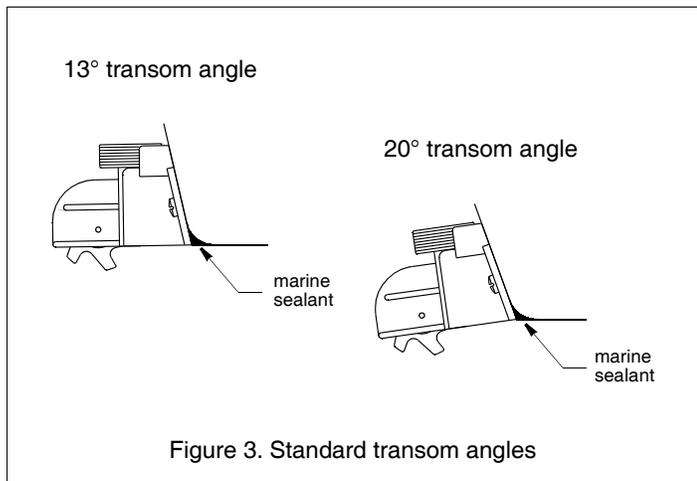
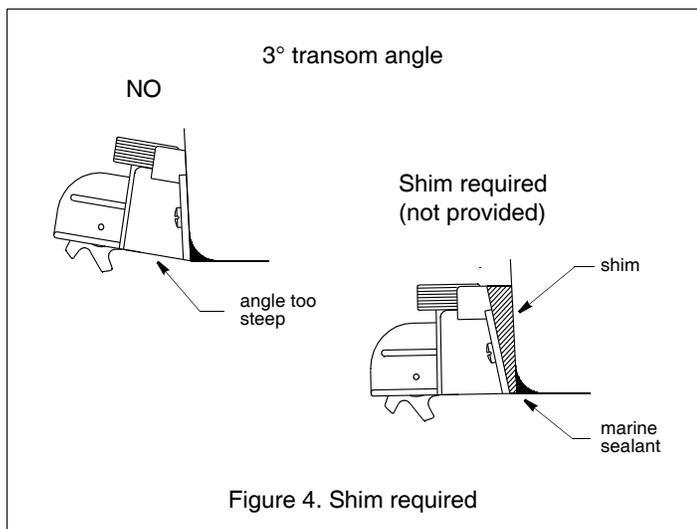

Figure 3. Standard transom angles
Figure 4. Shim required
4. The bracket is designed for a transom angle from 13–20° (see Figure 3). For other transom angles, fabricate a custom shim from plastic, an oily wood such as teak or metal (see Figure 4). Then, mark and drill the shim.
7. Fill any gap between the sensor and the hull with marine sealant using a putty knife for smoothing. This will ensure smooth water flowing over the paddlewheel (see Figures 3 and 4).